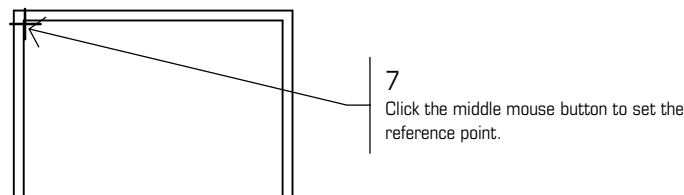

Figure 3.48: Setting a reference point
7. Move the cursor to the top left corner of the interior wall, as shown in Figure 3.48, and click the middle mouse button to set the reference point. You are prompted to “Select center of window”.